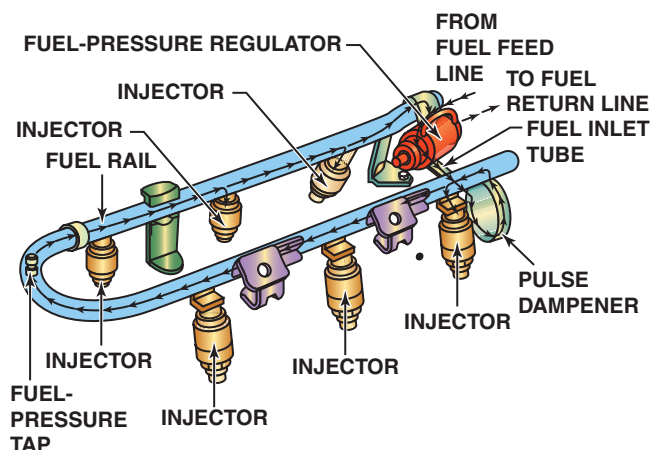

FIGURE 20-5 The injectors receive fuel and are supported by the fuel rail.
- Fuel distribution is equal to all cylinders because each cylinder has its own injector. ● **SEE FIGURE 20-5.**